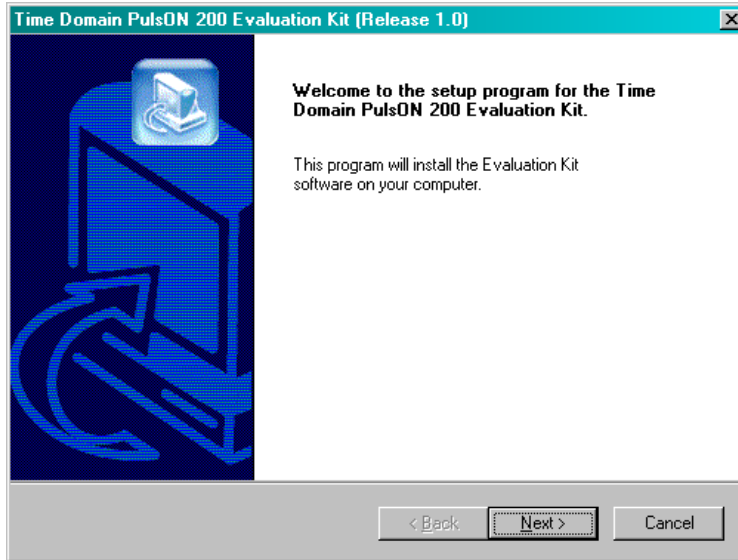

Fig. 2: Initial installation screen for the EVK software
3. You should see a box as shown in Fig. 2.